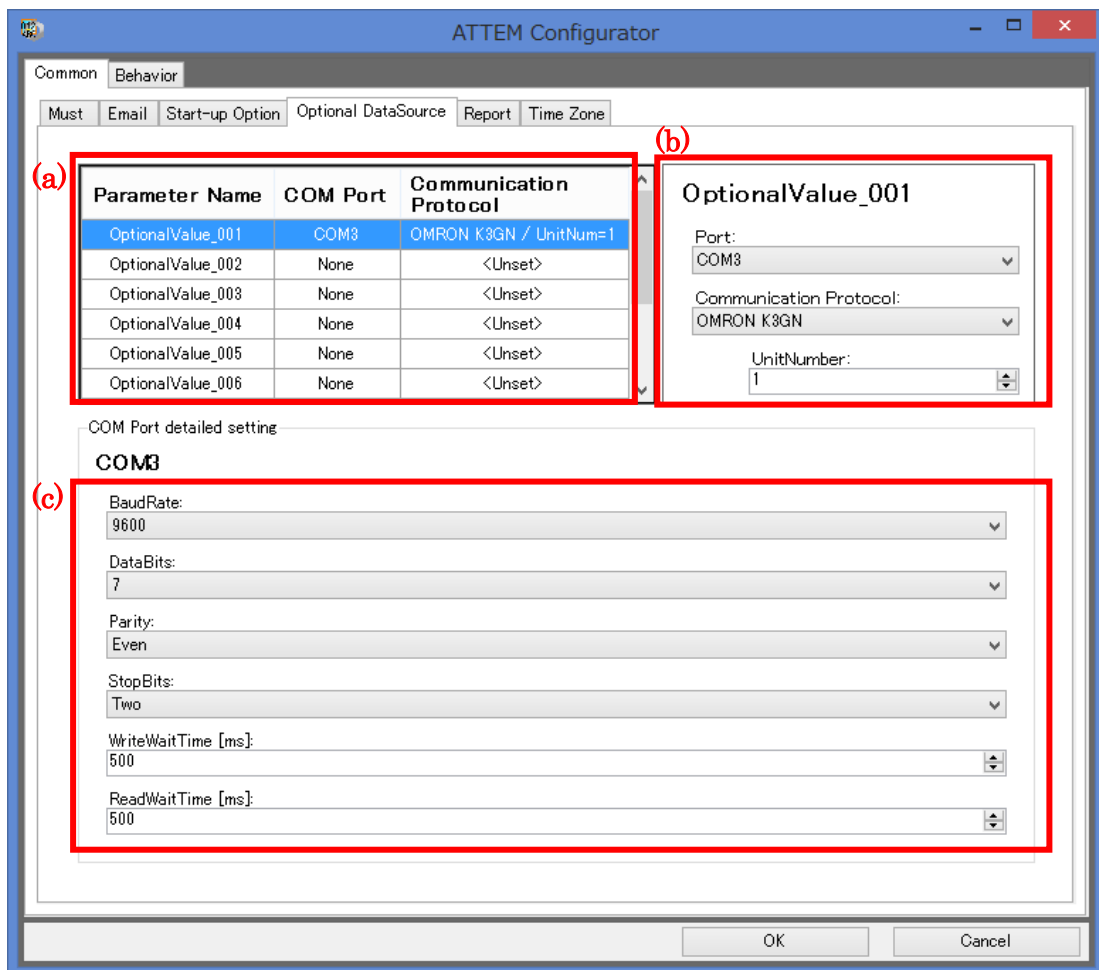

Figure 4-1: "Optional DataSource"-tab
- (2) From top-left table ((a) in Figure 4-1) in the screen, choose a parameter to assign the DPM to.
- (3) Edit communications settings of the parameter ((b) in Figure 4-1) in accordance with following table.
((c) in Figure 4-1)